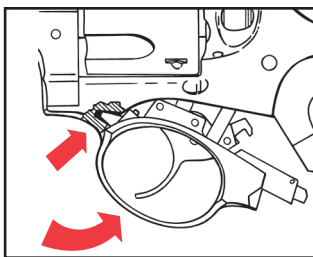
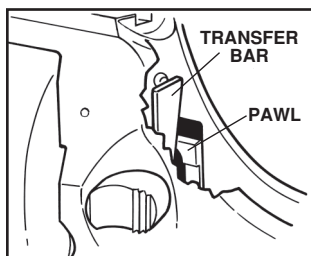

Figure 13
Figure 15
6. Use a screwdriver of appropriate size and insert it through the hole in the frame to depress the trigger guard lock plunger located inside the frame at the rear of trigger guard. Simultaneously pull down and remove trigger guard assembly (see Figures 13 & 14). It may be necessary to slightly depress the trigger while removing the trigger guard assembly.
2. Hook front of trigger guard into recess in frame (see Figure 13, p. 24). Align pawl in its recess in the frame and be sure transfer bar is in correct position in frame then allow latch to re-engage. If solid resistance is felt when swinging trigger guard into frame, or if trigger guard will not lock into position re-check position of pawl and transfer bar (see Figure 15).